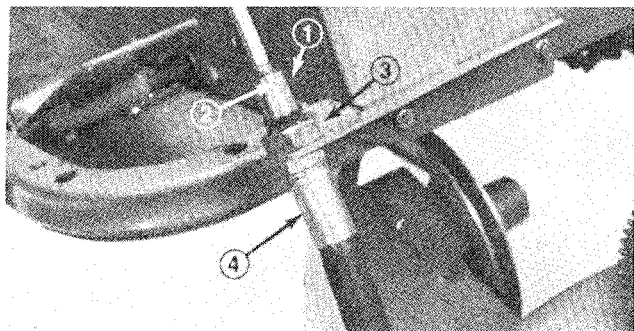

Figure 8
4. Mount coupler to end of crank shaft with a roll pin (Fig. 8).
5. Slide the large nut (Fig. 8) onto crank shaft while inserting flexible shaft up thru mounting hole in bottom bracket and into crank shaft coupler. Thread nut onto flexible shaft and tighten.